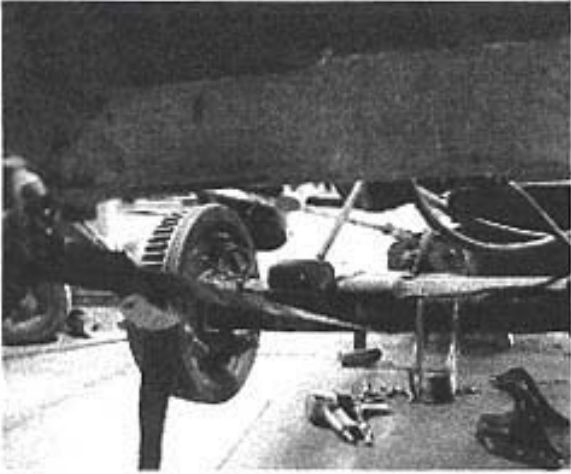

Figure 1
4. Support the rear axle to facilitate removal of the leaf springs. (cargo straps work well for this) Figure 1.